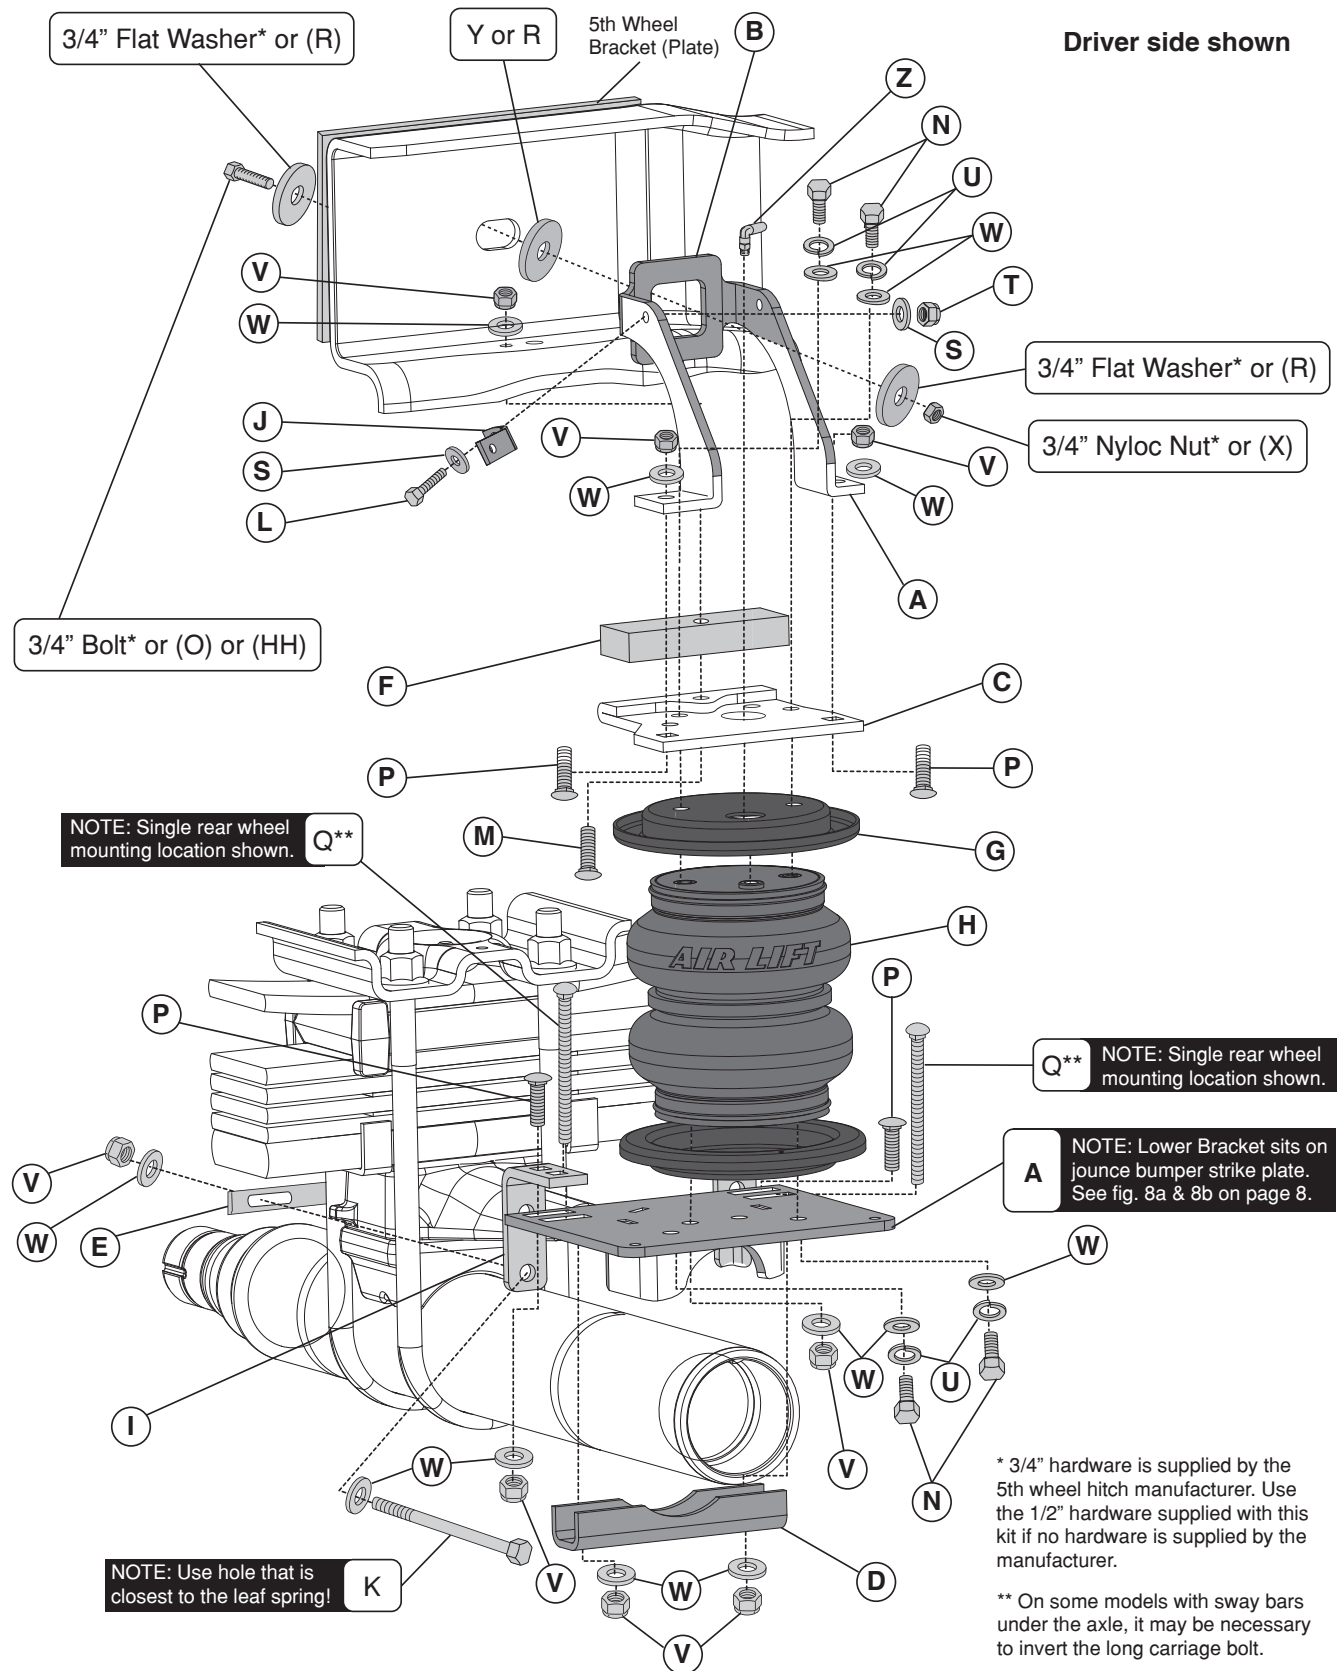

fig. 1
5. If you have a fifth wheel hitch already installed, it will be necessary to remove the $\frac{3}{4}$ " hardware that bolts the side bracket to the outside of the frame above the axle (fig. 1).
- *Attach the L-bracket (J) to the back frame brace using the 1/4" bolt (L), flat washers (S) and nyloc nut (T) supplied (fig. 1). This L-bracket will eventually be used to attach the previously removed emissions line. Do not attach the line holder to it at this time.*
If you have an aftermarket fifth wheel hitch that has a bracket (plate) running alongside of the frame and it used the slot to secure the bracket to the frame with existing hardware, install the existing hardware previously removed in the “getting started section” from the fifth wheel installation for securing the brace (fig. 4). Make sure to install the large 3/4” flat washer (Y) between the brace and the frame (fig. 1 and 4). Do not tighten at this time.
1. Set a roll plate (G) over the top and bottom of the bellows (H) (fig. 1).
2. Set the left (driver side) assembly onto the jounce bumper strike plate (figs. 8a & 8b). Raise the axle just enough to insert the long carriage bolt (M - that is installed in the upper bracket) through the existing jounce bumper hole in the bottom of the frame. At the same time, line up the upper brace previously installed onto the remaining two carriage bolts (P) in the upper bracket. Do this just enough for the carriage bolt to hold the assembly into position on the jounce bumper strike plate (figs. 1 & 8b).
3. Set the right (passenger side) assembly into position on the axle the same way the left side was positioned (fig. 1).
4. Raise the axle or lower the frame down so that the thick spacer (F) on the upper bracket is parallel to, and contacts the frame (on both sides).
5. Install the 3/8" Flat Washer (W) and a 3/8"-16 Nyloc nut (V) on the carriage bolt (M) that went through the existing jounce bumper hole and tighten securely on both sides (fig. 1).